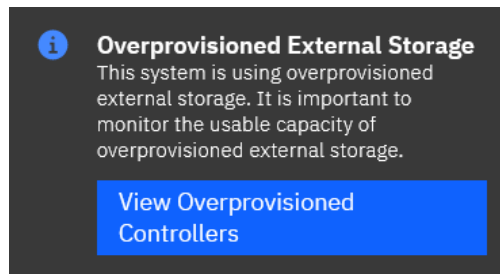

Figure 9-27 Dashboard button for overprovisioned storage monitoring
- The GUI dashboard, as shown in Figure 9-27.